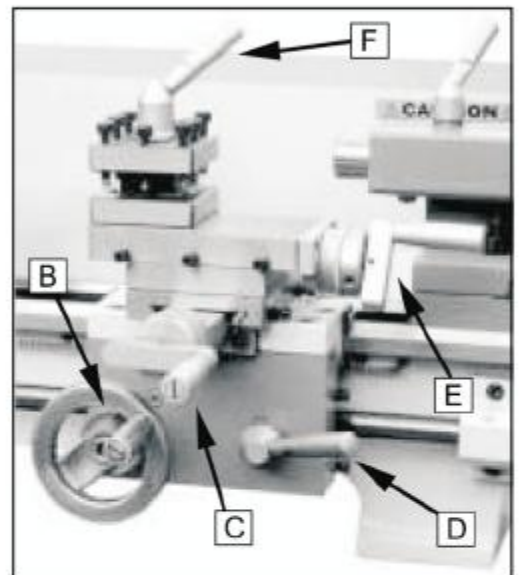

Fig. 11
5. Longitudinal Traverse Handwheel (B, Fig. 11)
6. Cross Traverse Lever (C, Fig. 11)
7. Half Nut Engage Lever (D, Fig. 11)
8. Compound Rest Traverse Lever (E, Fig. 11)
9. Tool Post Clamping Lever (F, Fig. 11)